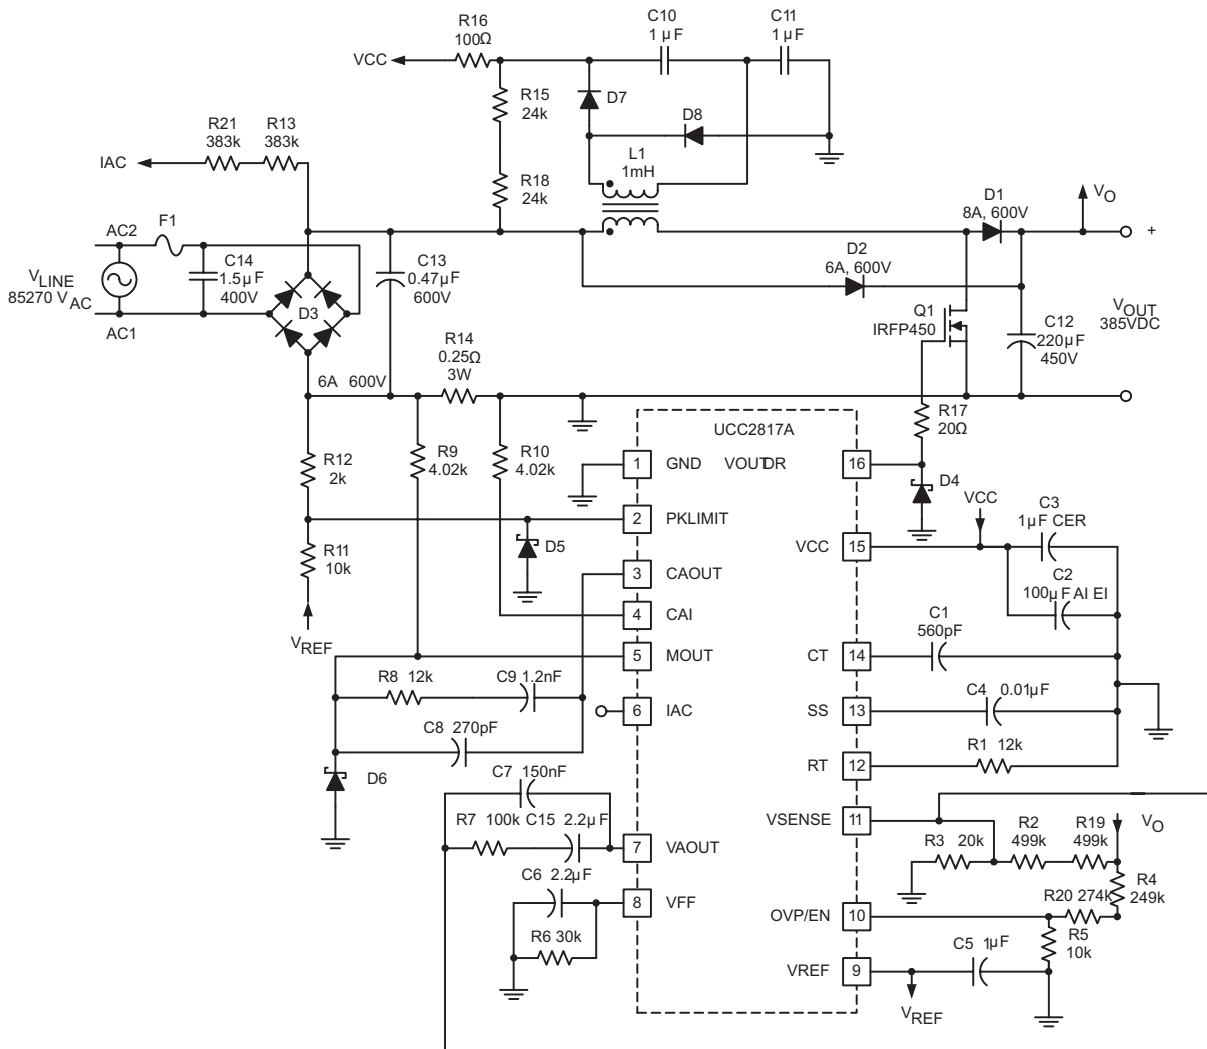

Figure 1. Typical Application Circuit
The UCC2818A-Q1 is a BiCMOS average current mode boost controller for high-power-factor high-efficiency preregulator power supplies. Figure 1 shows the UCC2818A-Q1 in a 250-W PFC preregulator circuit. Off-line switching power converters normally have an input current that is not sinusoidal. The input current waveform has a high harmonic content because current is drawn in pulses at the peaks of the input voltage waveform. An active power-factor correction circuit programs the input current to follow the line voltage, forcing the converter to look like a resistive load to the line. A resistive load has 0° phase displacement between the current and voltage waveforms. Power factor (PF) can be defined in terms of the phase angle between two sinusoidal waveforms of the same frequency: